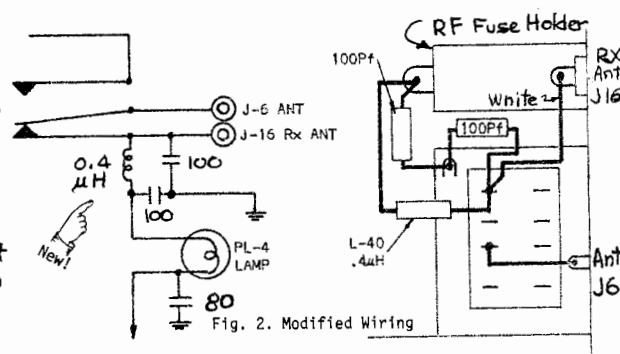

Fig. 2. Modified Wiring
- \* Remove the bottom cover and locate RL-2 (the Antenna relay) and run one white wire between J-16 (the RCV Ant jack) and RL-2 as shown in Fig 2. To the same point, add one end of a 0.4 microhenry choke and one end of a 100pF capacitor and solder into place.